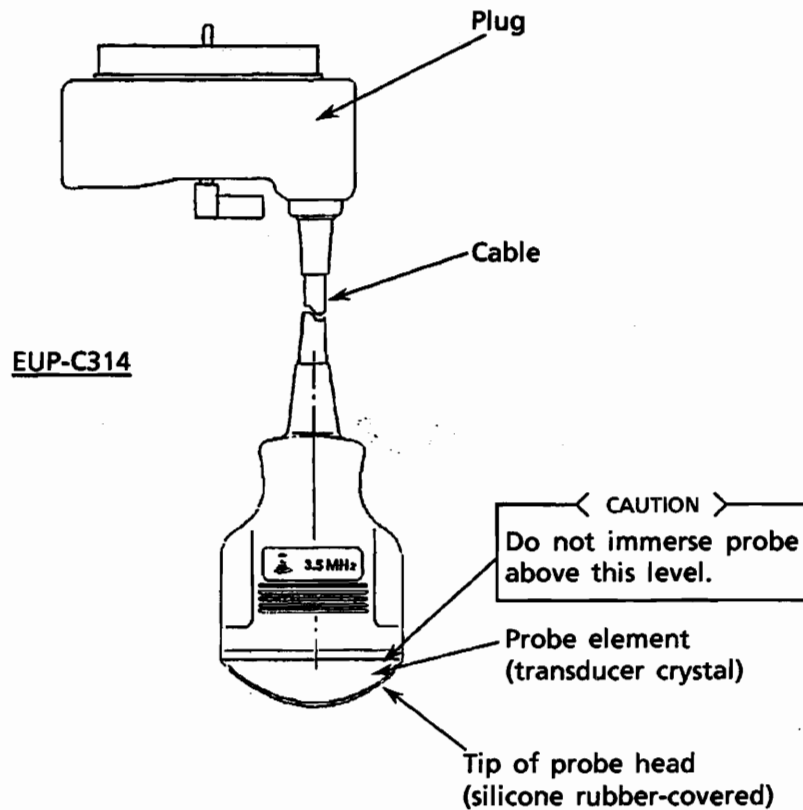

Fig. 1-7-1 Allowable Immersion Range for Probe
- (1) The probes are very sensitive components; even a light impact can damage them. Great care should, therefore, be exercised not to apply shocks to them, allow them to hit hard objects, or drop them.
- (2) Be sure to switch the equipment off before connecting or disconnecting them.
- (3) Great care should be taken not to scratch the tip of the head (face from which the ultrasound energy is radiated).
- (4) After each use, the probe must be cleansed with a piece of gauze moistened with water or ethyl alcohol. Do not use organic solvents such as thinners for this purpose.
- (5) The probe head must be disinfected using a piece of gauze soaked with ethyl alcohol.
- (6) For sterilization of the probe, read the instructions supplied with each probe.
- (7) Do not immerse the probe in water above the head section as shown in Fig. 1-7-1, or the water will enter the probe housing, causing a fault in the probe.